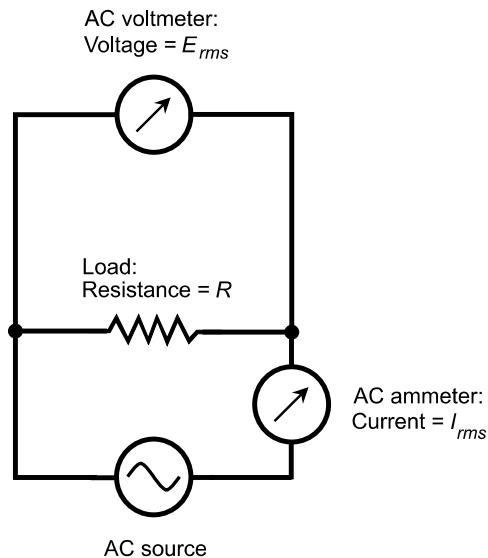

Fig. Test2-2. Illustration for Part Two Test Questions 10 through 14.
10. Suppose an AC source, a load, an AC ammeter, and an AC voltmeter are connected, as shown in Fig. Test2-2. The voltmeter and the ammeter both measure rms values. Assume the voltage source has
11. Suppose an AC source, a load, an AC ammeter, and an AC voltmeter are connected as shown in Fig. Test2-2. The voltmeter and the ammeter both measure rms values. Assume the voltage source has no DC component, and is a pure AC sine wave. If the voltmeter indicates 117 V and the ammeter indicates 500 mA, what is the resistance of the load?
12. Suppose an AC source, a load, an AC ammeter, and an AC voltmeter are connected, as shown in Fig. Test2-2. The voltmeter and the ammeter both measure rms values. Assume the voltage source has no DC component, and is a pure AC sine wave. The load resistance is known to be  $117\ \Omega$ . What is the rms current through it?
13. Suppose an AC source, a load, an AC ammeter, and an AC voltmeter are connected, as shown in Fig. Test2-2. The voltmeter and the ammeter both measure rms values. Assume the voltage source has no DC component, and is a pure AC sine wave. The load resistance is known to be  $117\ \Omega$ . What is the average voltage of the AC source?
14. Suppose an AC source, a load, an AC ammeter, and an AC voltmeter are connected, as shown in Fig. Test2-2. The voltmeter and the ammeter both measure rms values. Assume the voltage source has no DC component, and is a pure AC sine wave. The load resistance is known to be  $117\ \Omega$ . Then, suddenly, the load burns out, and an open circuit appears in its place. What happens to the voltmeter reading?